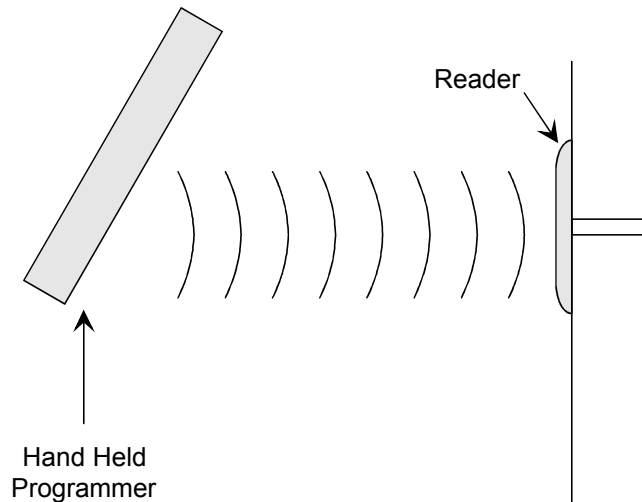

Figure 1 – HPP-100 Orientation
The *HPP-100 Hand-Held Programmer* is a powerful and convenient tool, yet its operation is simple enough for anyone to master in a short period of time. The *HPP-100* has the appearance of a TV remote control, but has a different principle of operation. It is a mini-transmitter using a radio frequency (RF) rather than an infrared signal to transmit data. Unlike a television remote control (that requires a direct line-of-sight between the infrared transmitter in the remote and the infrared receiver in the television) the *HPP-100* should be held parallel to the proximity antenna (see Figure 1).